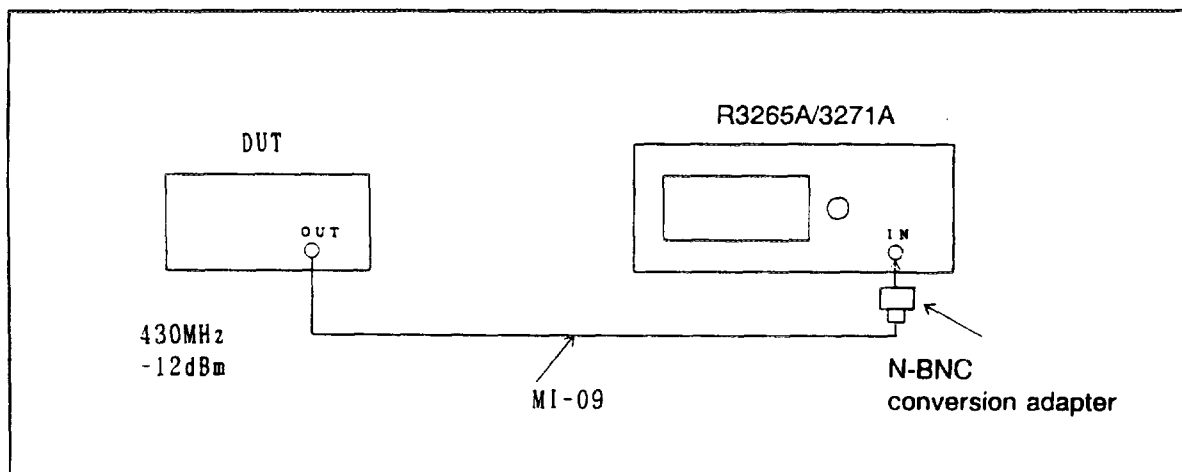

Figure 3-2 Wiring
- ② Press the  key to initialize the analyzer. (Initializing returns the analyzer to its factory settings.)
- ③ Connect the analyzer to the signal source (the oscillator in this example) as shown in Figure 3-2.